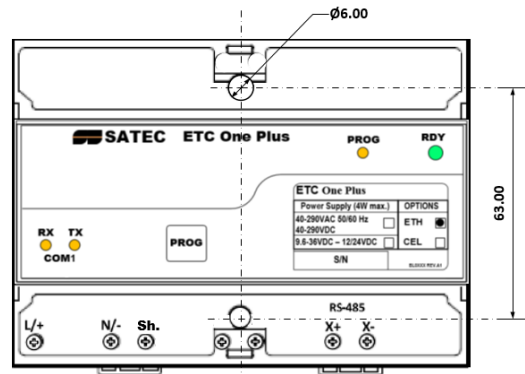

Figure 2-2 Surface mounting
1. Position the device on the wall according to hole locations as shown in figure 2-2